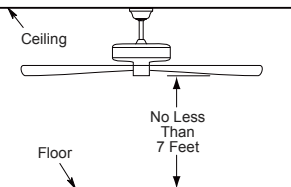

Figure 2
- ☐ 2. Remove the hairpin clip and clevis pin from the bottom of the downrod. Retain the pin and clip for reinstallation in Step 4. (Figure 2)
The fan must be hung with at least 7' of clearance from floor to ceiling fan. (Figure 2)